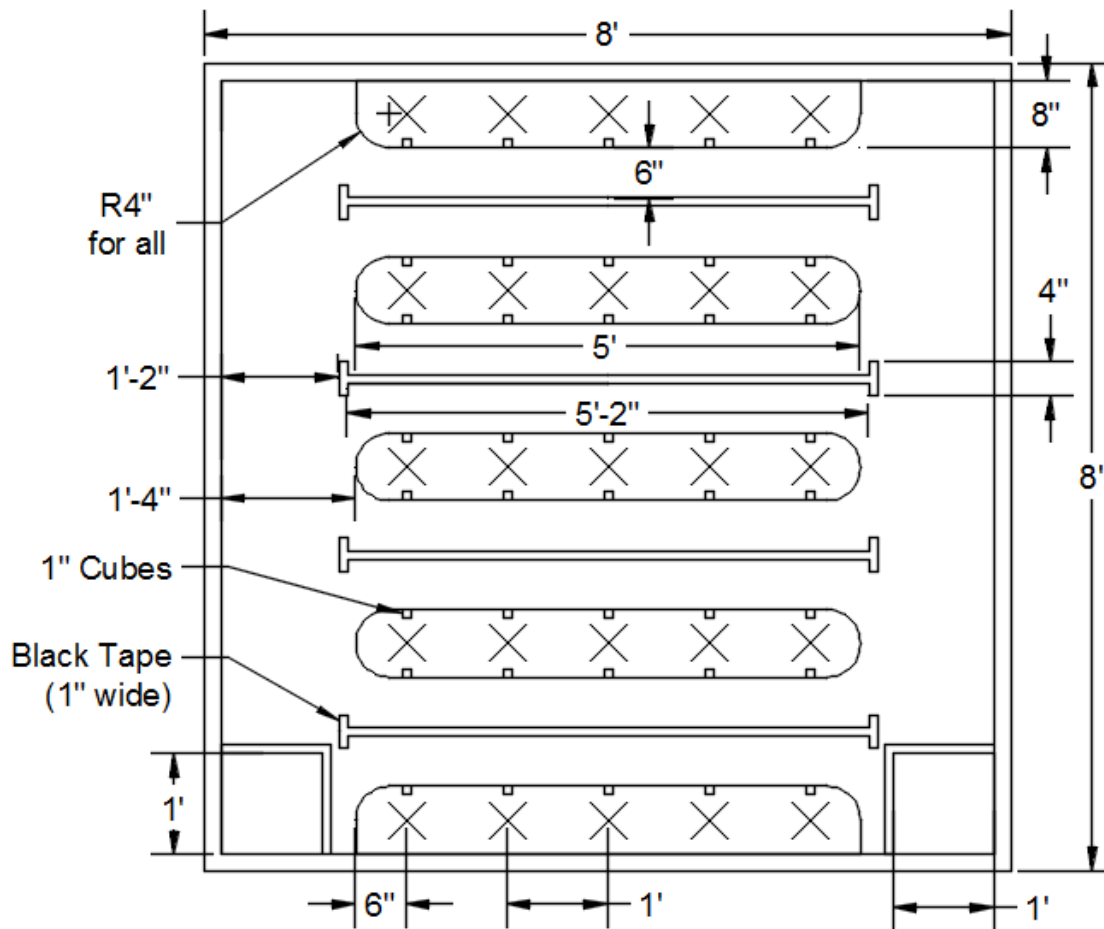

Figure 1. Board layout and dimensions.
2. The five rectangular rows upon which plants will be placed are raised an inch above the rest of the board. There will be three-dimensional paper cutouts, representative of soybean plants, placed along the rows at 20 of the 25 possible locations (fig 1). The plants, when present, will be positioned so that the base is in the orientation indicated by the "X"s. Appendix A provides a template for the plants and a guide to their construction. They can be Short (6 in) or Tall (8 in). Plants of each size can be painted either Dry (Yellow), Healthy (Green), or Overwatered (Brown).
3. No more than seven plants of each phenotype will be placed on the board for a single run. A sample marker should be collected for each phenotype on the board. Samples will be 1 x 1 x 1 in wooden cubes, and they will be placed on the platform at the base of each plant. The location of the cubes is represented by the small squares in figure 1.